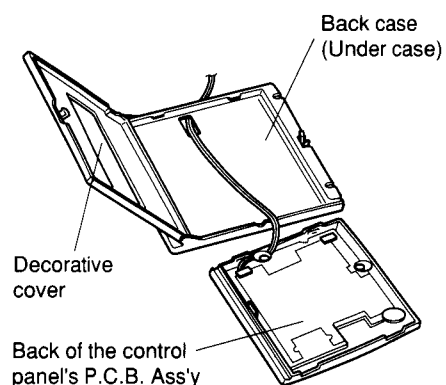

Fig. 43
- b. Back of the control panel's P.C.B. Ass'y can now be accessed. (Fig. 43)